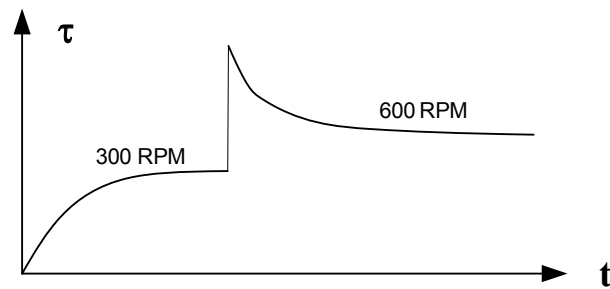

Figure 1-1: Behavior of a rheopectic fluid
From Figure 1-1 one ton of mud pr. ton will produce 15,9 m³ of 15 cP mud.
c) From Figure 1-1 we see that a viscosity of max. 50 cP, will correspond to 7.5 w % Bentonite.